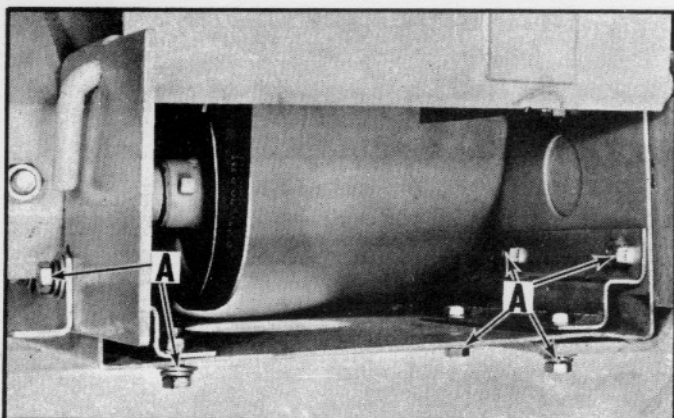
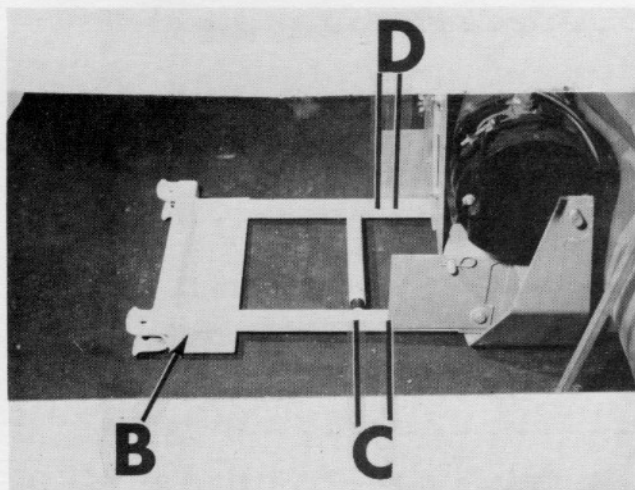

Fig. 2
Fig. 3
Loosen all eight bolts in mounting pockets at "A" (Fig. 2). Insert the square shaft extensions on mounting bracket "B" (Fig. 3) into mounting pockets. Locate mounting bracket so to have 1-3/4" from the center of the lift shaft to the edge of the implement mounting bracket as indicated at "C" (Fig. 3) on all 120 & 150 Tractors. On the 80 & 100 Tractors, push the square shafts in beyond the edge of the implement mounting bracket so to measure 1-1/4" from the center of the shaft to the edge of the implement mounting bracket as indicated at "D" (Fig. 3).
Tighten the bolts (A) which hold the mounting bracket in position (Fig. 2). Tighten these bolts securely. **THIS IS IMPORTANT.**